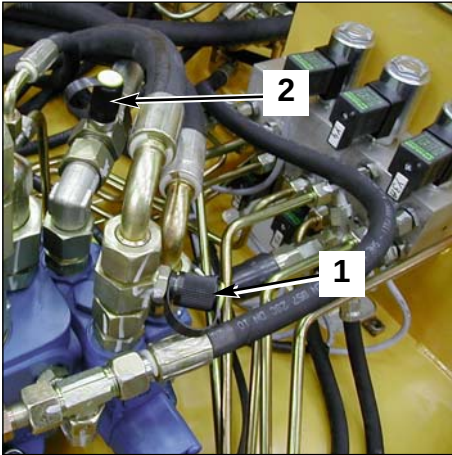

Fig. 1 SX14 valve block
- 2- Measure the difference in pressure between (1 fig. 1) and (2 fig. 1) using the two manometers.